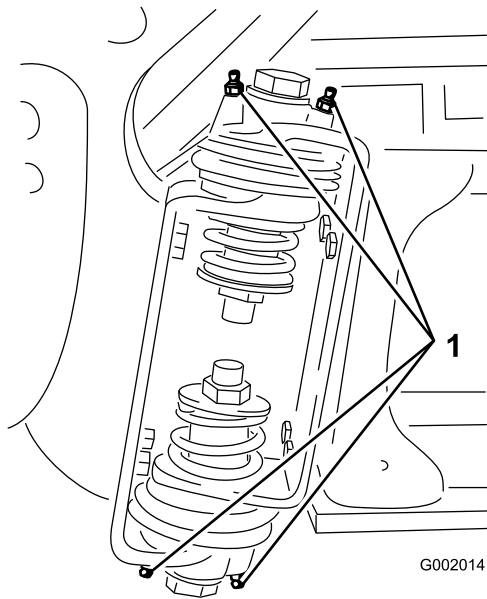

Figure 46
2. Pump grease into the bearing or bushing at each fitting Figure 46.